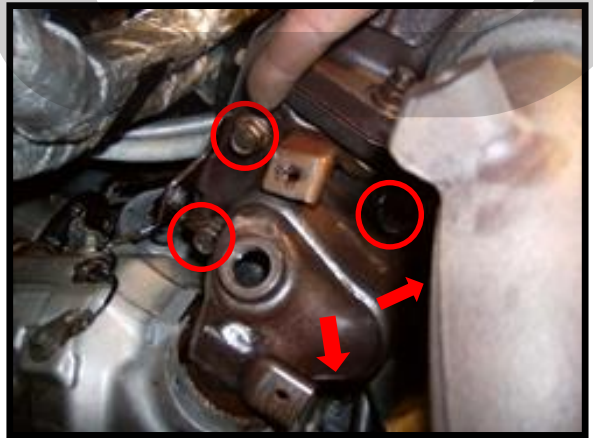

Figure 6b
- c) Remove the five 14mm nuts attaching the downpipe to the turbo. Shown with **red circles and arrows in Figure 6b.**